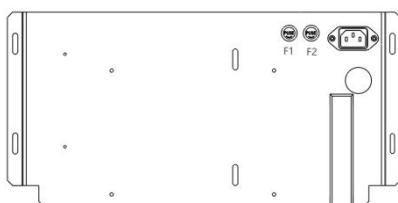

Figure 9 地箱保险管
6.1.2 Fuses in Ground Cabinet (Figure 9)